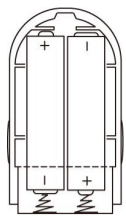

Figure 3 Batteries installation
Step 1. Refer to Figure 3 and insert the two AAA size batteries according to the diagram on the unit.